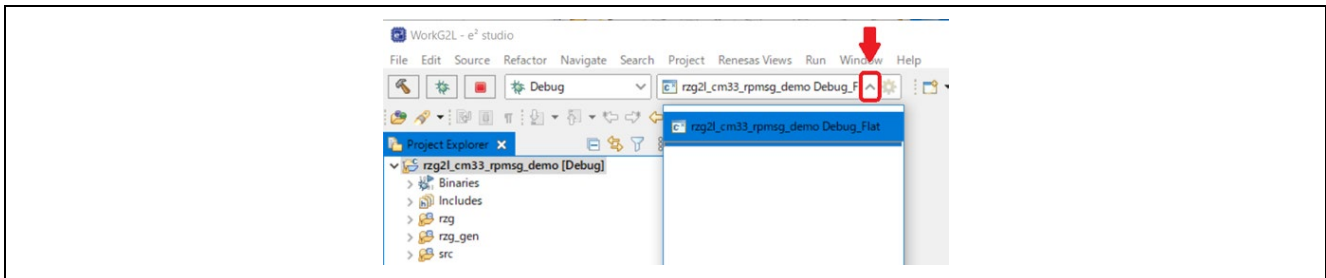

Figure 4-4. Select of Debug Configuration
1. Choose <device>\_cm33\_rpm3g\_demo Debug\_Flat or <device>\_cm33\_rpm3g\_demo Release\_Flat from the drop-down list indicated by a red arrow in Figure 4-4.